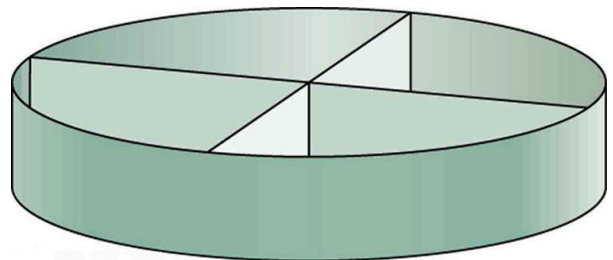

FIGURE 12.28 You will find devices such as this in many drains. They significantly increase flow rate.
27. Sink drains often have a device such as that shown in Figure 12.28 to help speed the flow of water. How does this work?